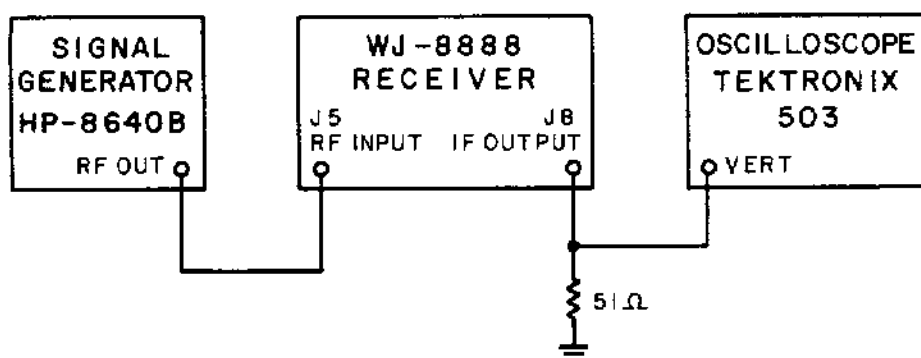

Figure 5-5. Test Setup, IF/Image Rejection Tests
(1) Connect the equipment as shown in Figure 5-5.
(2) Place the receiver in the AM detection mode and the MAN gain mode, using an IF bandwidth of between 2.0 and 8.0 kHz. Rotate the RF GAIN control fully clockwise. Tune the receiver and signal generator to 30 MHz. The signal generator RF output should be unmodulated at the level indicated in Table 5-3 for the IF bandwidth in use.
(3) Adjust the oscilloscope controls so that the receiver IF output signal can be plainly seen (it may also be necessary to adjust the signal generator frequency slightly). Adjust the oscilloscope vertical sensitivity so that the top of the waveform is at a convenient position on the graticule. Note this reference level.
(4) Tune the signal generator to 82.805 MHz (the receiver 1st IF). Increase the signal generator output level until the top of the oscilloscope waveform again reaches the reference level noted in step (3) (it may be necessary to adjust the signal generator frequency slightly to obtain an indication). Note the new setting of the signal generator RF output attenuator.
(5) The new setting of the signal generator RF output attenuator should be at least 100 dB higher than the output level set in step (2).
(4) Tune the signal generator to 142.805 MHz (the receiver RF image frequency for 30 MHz). Increase the signal generator output level until the top of the oscilloscope waveform again reaches the reference level noted in step (3) (it may be necessary to adjust the signal generator frequency slightly to obtain an indication). Note the new setting of the signal generator RF output attenuator.
(5) The new setting of the signal generator RF output attenuator should be at least 100 dB higher than the output level set in step (3).